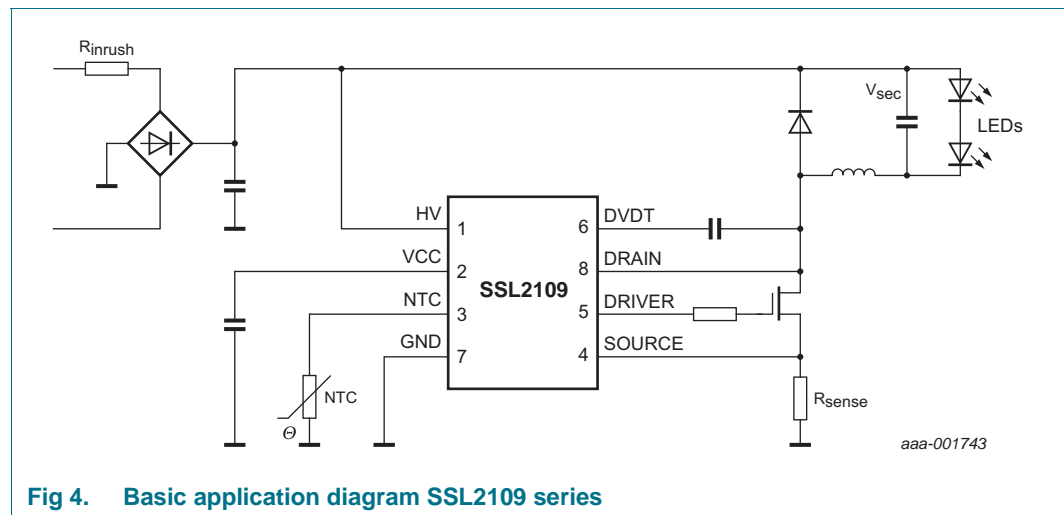
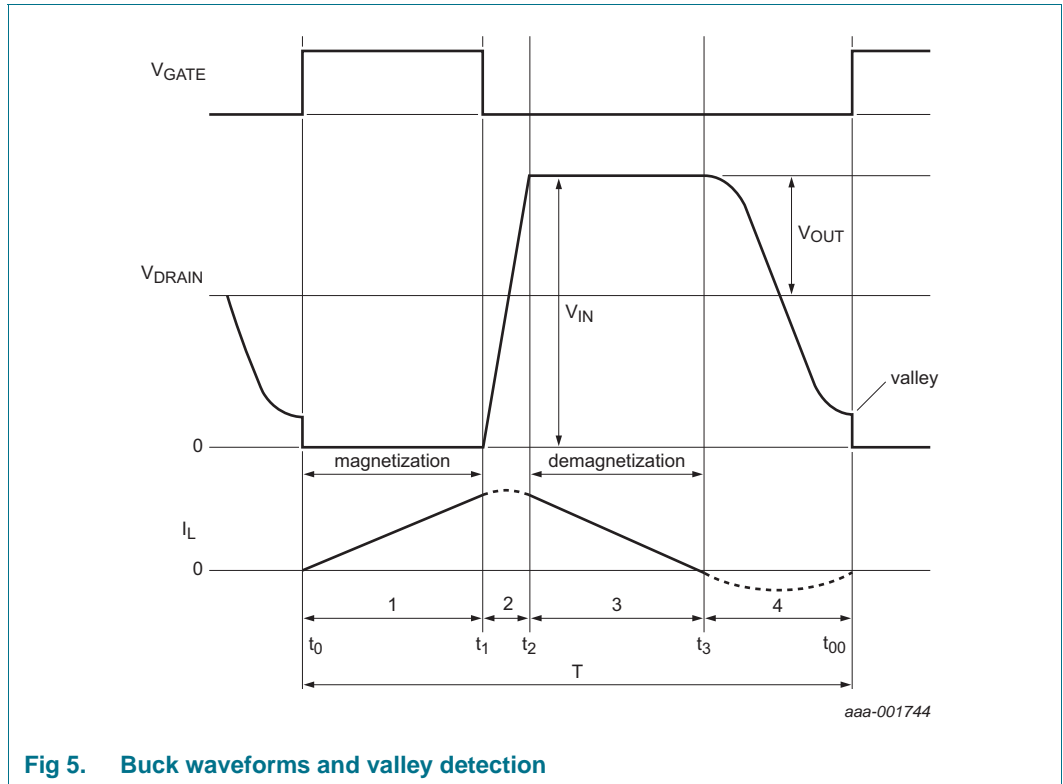

Fig 4. Basic application diagram SSL2109 series
Fig 5. Buck waveforms and valley detection
- Low component count (see Figure 4) LED driver solution:
The converter in the SSL2109 series is a Boundary Conduction Mode (BCM), peak current controlled system. For the basic application diagram see Figure 4, for the waveforms see Figure 5. This converter type operates at the boundary between continuous and discontinuous mode. Energy is stored in inductor L each period that the switch is on. The inductor current I_L is zero when the MOSFET is switched on. Thereafter, the amplitude of the current build-up in L is proportional to $V_{IN} - V_{OUT}$ and the time that the MOSFET switch is on. When the MOSFET switch is switched off, the current continues to flow through the freewheel diode and the output capacitor. The current then falls at a rate proportional to the value of V_{OUT} . The LED current I_{LED} is almost equal to half the peak switch current. A new cycle is started, as soon as the inductor current I_L is zero.
A new cycle is started when the primary switch is switched on (see Figure 5). In the following sections, “on” represents the conductive state and off the non-conductive state.